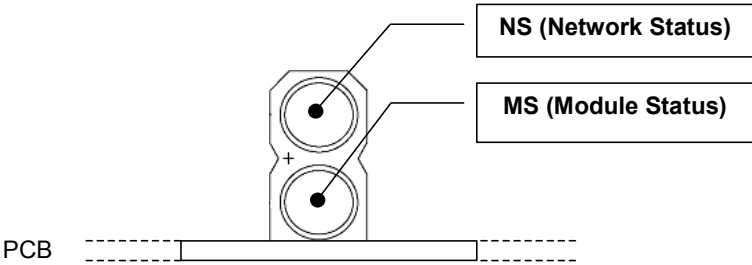

Figure 2: LED Indicators
The interface board contains two bi-color red/green status LEDs. The lower LED indicates the Module Status (MS), and the upper LED indicates the Network Status (NS). Refer to Figure 2. The use and context of these LEDs is network-specific: refer to each network’s section in this manual for further information.